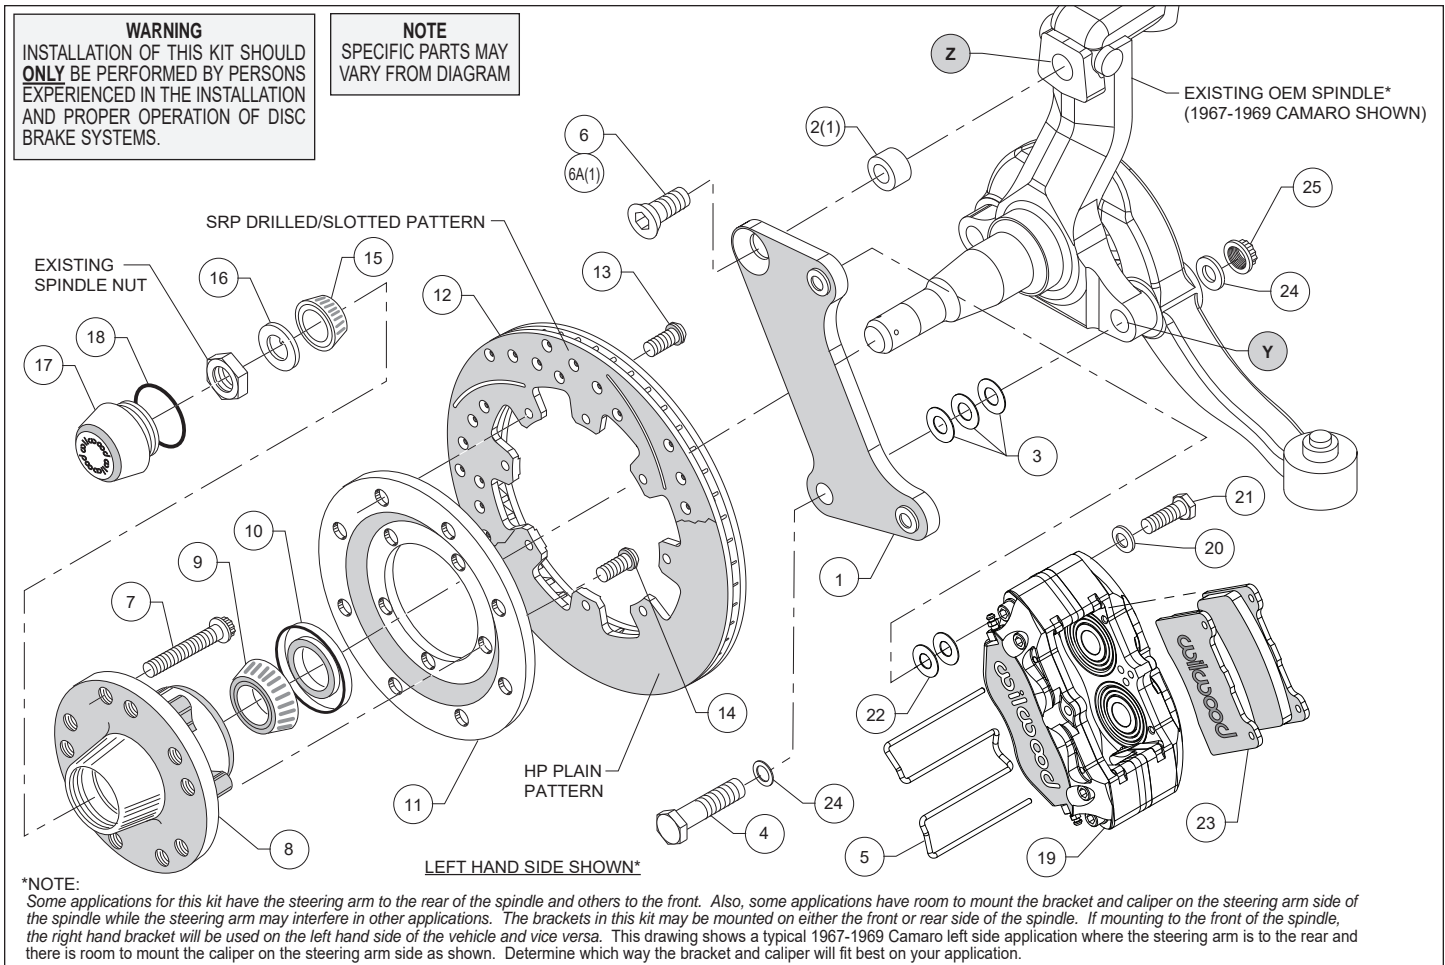
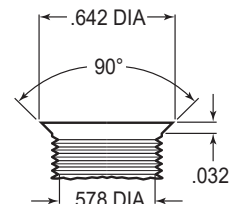
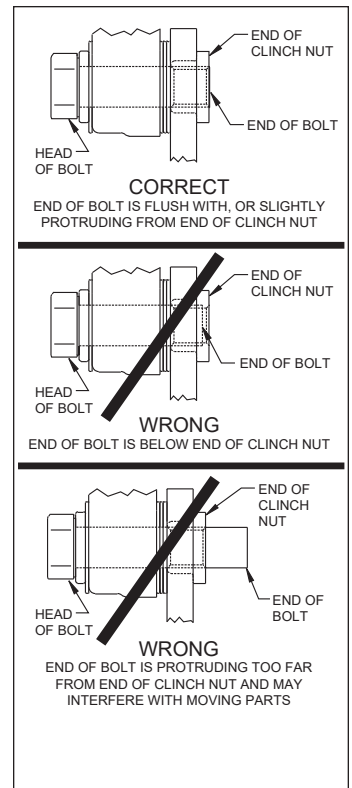

Figure 1. Typical Installation Configuration
Figure 3. Drill and Tap Detail
Figure 4. Clinch Nut Engagement Diagram
Assembly Instructions (numbers in parenthesis refer to the parts list and Figure 1 on the preceding page): **CAUTION:** All mounting bolts must fully engage clinch nuts. Be sure to check that all bolts are either flush or protruding through flanged side of clinch nut after shimming, Figure 4.
•**NOTE:** Some applications for this kit have the steering arm to the rear of the spindle and others to the front. Also, some applications have room to mount the bracket and caliper on the steering arm side of the spindle while the steering arm may interfere in other applications. The brackets in this kit may be mounted on either the front or rear side of the spindle. If mounting to the front of the spindle, the right hand bracket will be used on the left hand side of the vehicle and vice versa. Figure 1 shows a typical 1967-1969 Camaro left side application where the steering arm is to the rear and there is room to mount the caliper on the steering arm side as shown. Determine which way the bracket and caliper will fit best on your application.
•**NOTE:** Some spindles in this year range may require the following modifications (reference Figure 1 and Figure 3): Top anchor pin hole (Z) must be drilled and tapped to the dimensions as outlined in Figure 3. The lower bolt hole (Y) in the spindle used to mount the new caliper bracket, and the mating steering arm hole, must be enlarged to .50" by drilling. It is recommended these modifications be performed by a qualified machinist.
- Install wheel studs (7) into the hub (8), Photo 1. Torque to 77 ft-lb. **NOTE:** There are two five lug patterns in the hub (5 x 4.50 and 5 x 4.75). Ensure the correct hub stud pattern is being used to fit the wheel application.
- Pack the large inner bearing cone (9) with high temperature disc brake bearing grease (available from your local auto parts store) and install into the backside of the hub (8), Photo 2.
- Install the grease seal (10) by pressing into the backside of the hub (8), flush with the end of the hub, Photo 2.
- Orient the rotor (12) and the rotor adapter (11) as shown in Figure 1 and Photo 3. Attach the rotor to the adapter using bolts (13). Using an alternating sequence, apply red *Loctite*® 271 to the threads, and torque to 25 ft-lb.
- Mount the adapter/rotor assembly (11 and 12) to the hub (8) using bolts (14), as shown in Figure 1 and Photo 4. Using an alternating sequence, apply red *Loctite*® 271 to the threads, and torque to 45 ft-lb.
- Disc Brake Spindle Application Only:** Follow the instructions below, but instead use bolt (6A), and spacer (2) in the upper bolt hole location, Figure 1.
- Orient the flat bracket (1) as shown in Figure 1 and Photo 5, and install using bottom bolt (4), washers (24), and nut (25), Figure 1. Initially place three .032" thick shims (3) between the bracket and spindle. Install the upper bolt (6 or 6A), Photo 6. Temporarily tighten bolts. **NOTE:** *The bracket must fit squarely against the mounting surfaces on the spindle.* Inspect for interference from casting irregularities, machining ridges, burrs, etc. Ensure that the flanged heads of the clinch nuts in the bracket are facing outboard. Temporarily install the hub/rotor assembly. Check that the bracket is aligned parallel to the rotor, Photo 7. If not, adjust by adding or subtracting shims (3) on the lower bolt between the bracket and spindle, Figure 1. Once the bracket alignment is correct, remove the upper bolt (6 or 6A), apply red *Loctite*® 271 to the bolt threads, and torque to 120 ft-lb. Torque the lower lock nut to 65 ft-lb.
- Pack the small outer bearing cone (15) with high temperature disc brake bearing grease and install into hub (8). Slide the hub/rotor assembly onto the spindle. Secure using spindle washer (16) and OEM spindle nut, Photo 8. Adjust bearings per OEM specifications. Install saved OEM nut lock (if any) and a new cotter pin (not included).
- Screw dust cap (17) into hub (8). Friction created by the o-ring (18) on the dust cap keeps it from unscrewing. **NOTE:** *The O.D. of the existing OEM spindle washer may be larger than the I.D. of the dust cap not allowing it to seat against the hub face. Therefore, use the spindle washer (16) supplied with the kit instead of the OEM washer.*
- NOTE:** *Please reference the caution statement at the beginning of the assembly instructions.* Mount the caliper (19) onto the caliper bracket (1) using bolts (21) and washers (20), as shown in Figure 1. Initially place two .035" thick shims (22) on each bolt between the caliper and the bracket, Photo 9. Temporarily tighten the mounting bolts and view the rotor (12) through the top opening of the caliper. The rotor should be centered in the caliper, Photo 10. If not, adjust by adding or subtracting shims (22) between the bracket and the caliper. Always use the same amount of shims on each of the two mounting bolts. **NOTE:** *The end of the bolt must be flush with or slightly*
protuding from the head of the clinch nut in the bracket. If necessary, place spare shims between the washer and the caliper mounting ear to achieve the proper clinch nut engagement, as shown in Figure 4. Once the caliper alignment is correct, remove the bolts one at a time, apply red Loctite® 271 to bolt threads, and torque to 40 ft-lb.